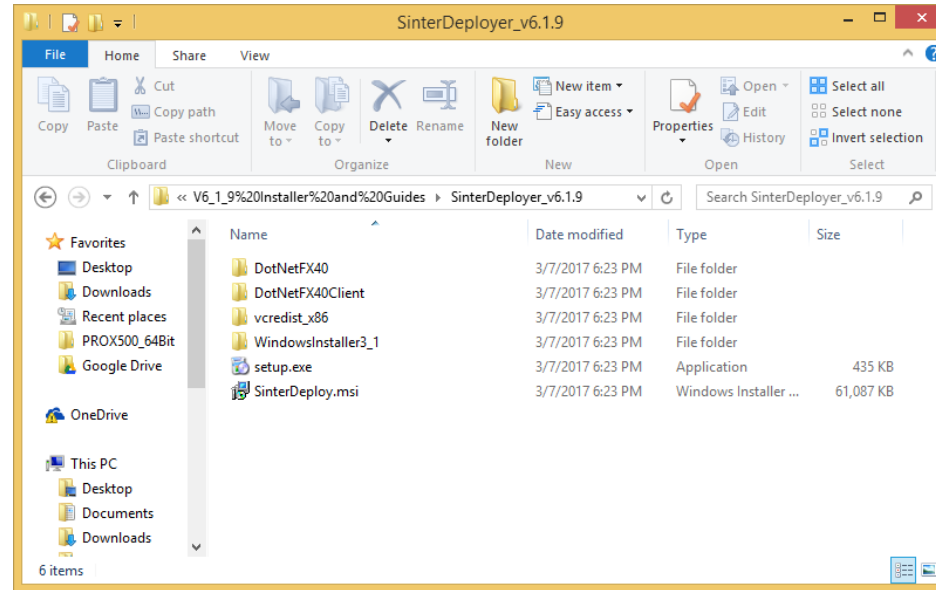

Figure 3
7. Run SinterDeploy.msi from “SinterDeployer\_v6.1.9” directory (Figure 3).